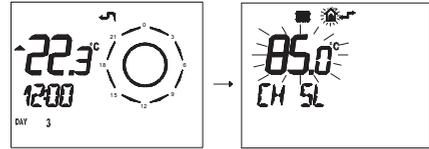

Fig. 7.39
- Press button **IP** for more than 3 seconds to enter in **INFO** mode (Fig. 7.39).